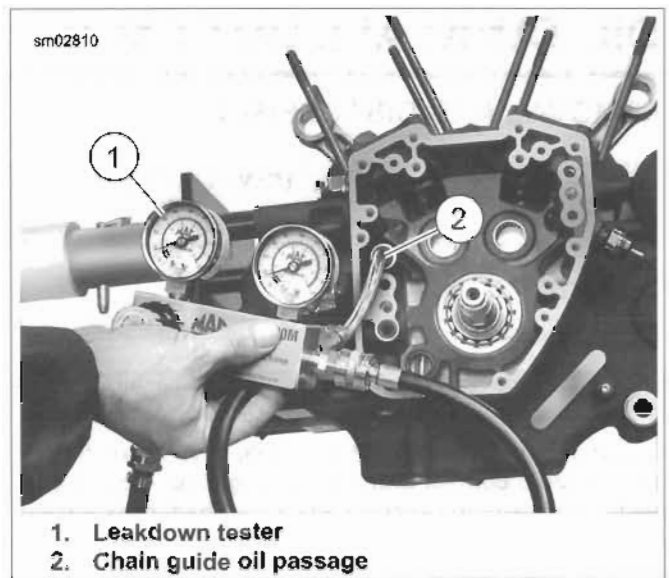

Figure 3-169. Leakdown Test
15. See Figure 3-169. Remove screen and O-ring from chain guide oil passage (2). Perform leakdown test to verify proper assembly.
- d. Apply a light coat of **SCREAMIN' EAGLE ASSEMBLY LUBE** to nipple. Insert nipple into chain guide oil passage (2).